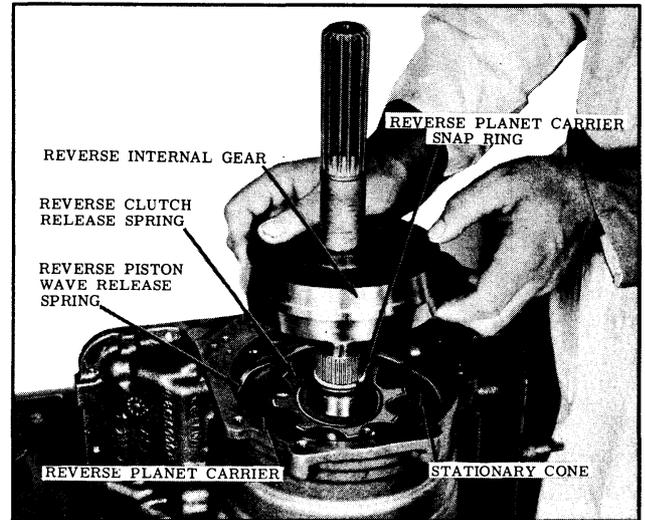

Fig. 3-39 Removing Reverse Internal Gear
11. Lift the reverse internal gear from the output shaft (See Fig. 3-39), then remove thrust washer from internal gear.
12. Remove the reverse clutch release spring. (See Fig. 3-39)
13. Remove the reverse piston release spring. (See Fig. 3-39)